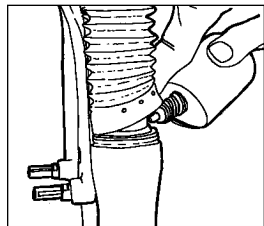

Fig. 4
- Lift fork boots from lower tubes. Then wipe exterior surfaces, Resi-wiper seal area and upper tube clean. Apply 2-3 drops of Teflon-fortified oil to the upper tubes at the Resi-wiper. (See Fig. 4)